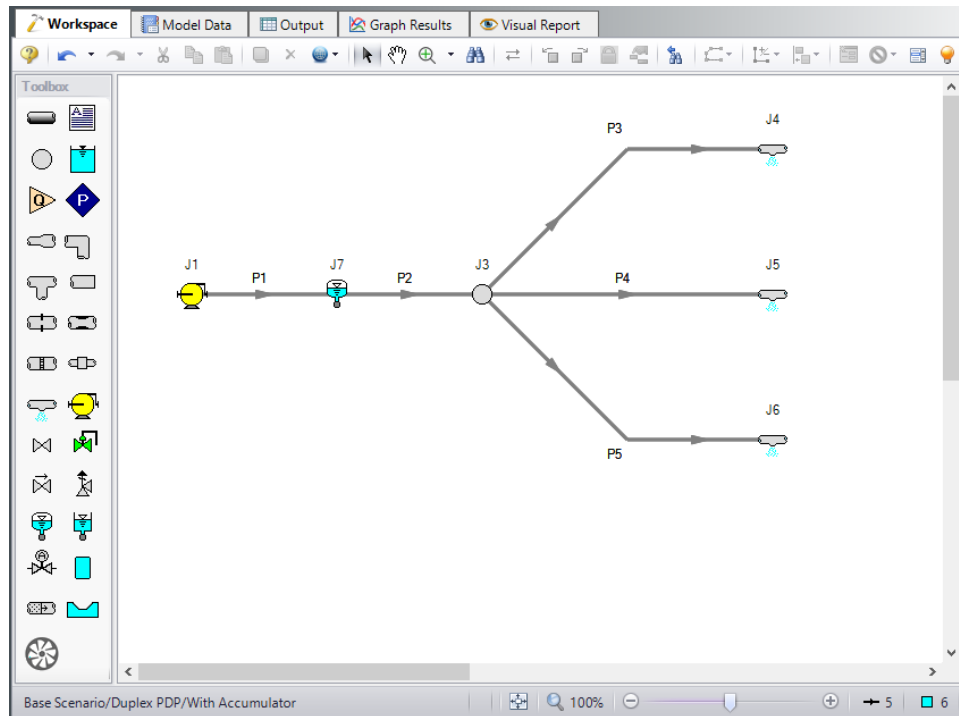

Figure 4: Scenario with duplex pump and gas accumulator junction
- c. Let go of the CTRL key. The gas accumulator junction should take on the number J7. See Figure 4.